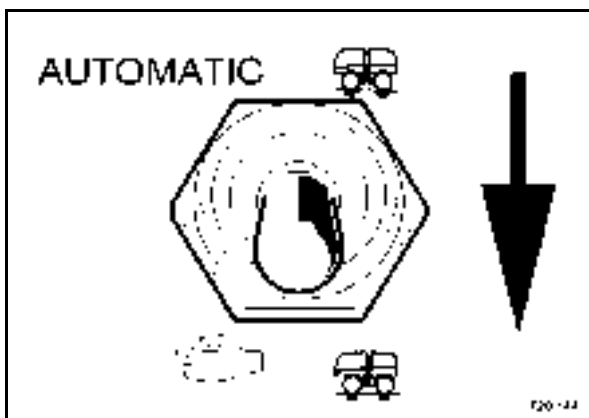

Fig. 51
- Set the vibration switch (Fig. 51) to position "Manual".